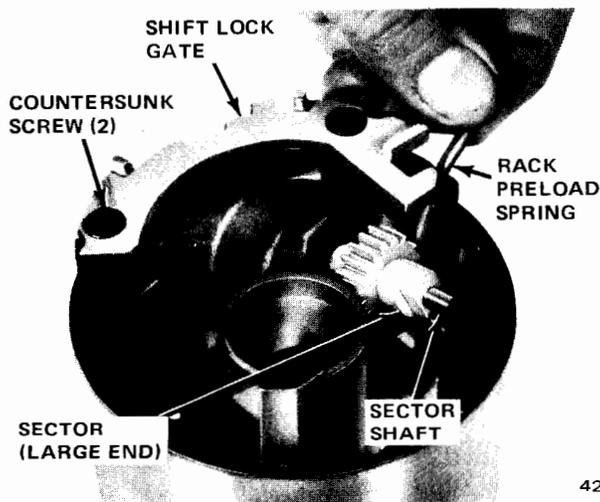
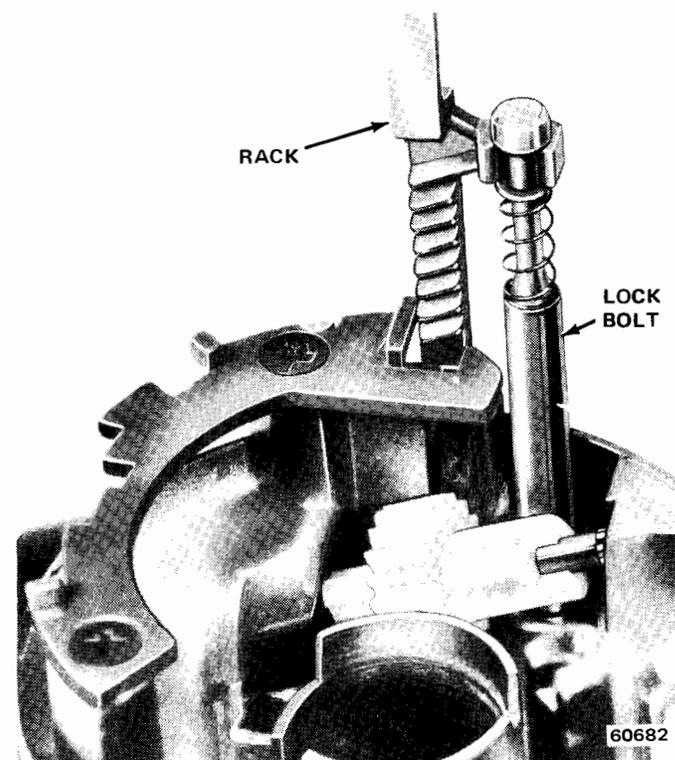

Fig. 11-31 Housing Components
Fig. 11-35 Installing Rack and Lock Bolt
(22) Remove lock bolt and rack and remove rack preload spring (fig. 11-31).
- (2) Align shift bowl with shift tube spline and install bowl.
- (3) Install rack preload spring in upper housing (fig. 11-31).
- (5) Install shift lock gate using two countersunk screws (fig. 11-31). Tighten screws to 45 inch-pounds torque.
- (6) Install shift quadrant lamp and install lamp cover.
- (7) Install shift quadrant indicator and press retainer clips into place with flat side toward bowl.
- (8) Assemble lock bolt and rack (fig. 11-19) and install in shift bowl (fig. 11-35).